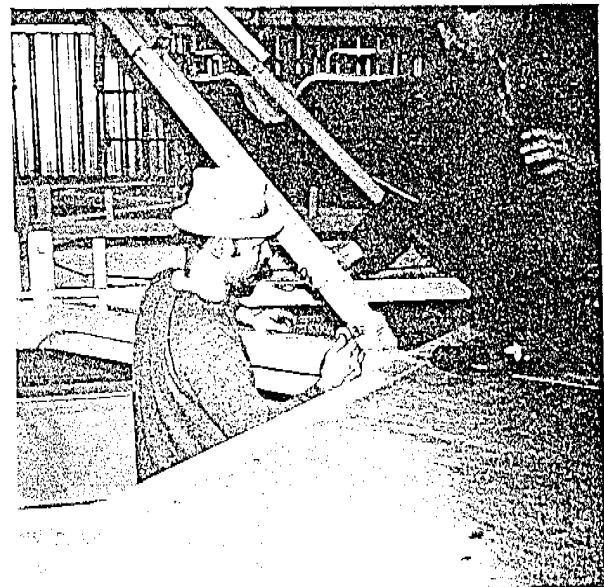

Fig. 51
- (2) Fit the lower end of a brace between the double ears at the inside edge of the rotating platform. (Fig. 51)